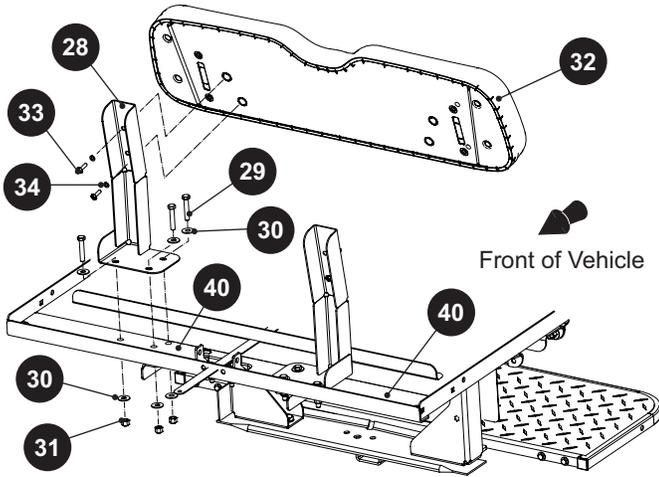

Fig. 3 Flip Seat Back Removal
4. Remove the bolts (33) and lock washers (34) fastening the seat back (32) to the seat back bracket (28).
5. Remove the lock nuts (31), flat washers (30), and bolts (29) to remove the seat back brackets.
6. Remove the deck board fillers (40) (Ref. Fig. 3).